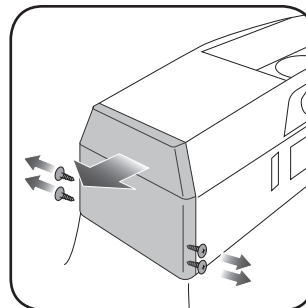

Fig. 1.7
7. Remove (4) Philips screws on the the rear sides the console. Remove the rear cover of the center console by gently releasing the clips that secure it. (Fig. 1.7)